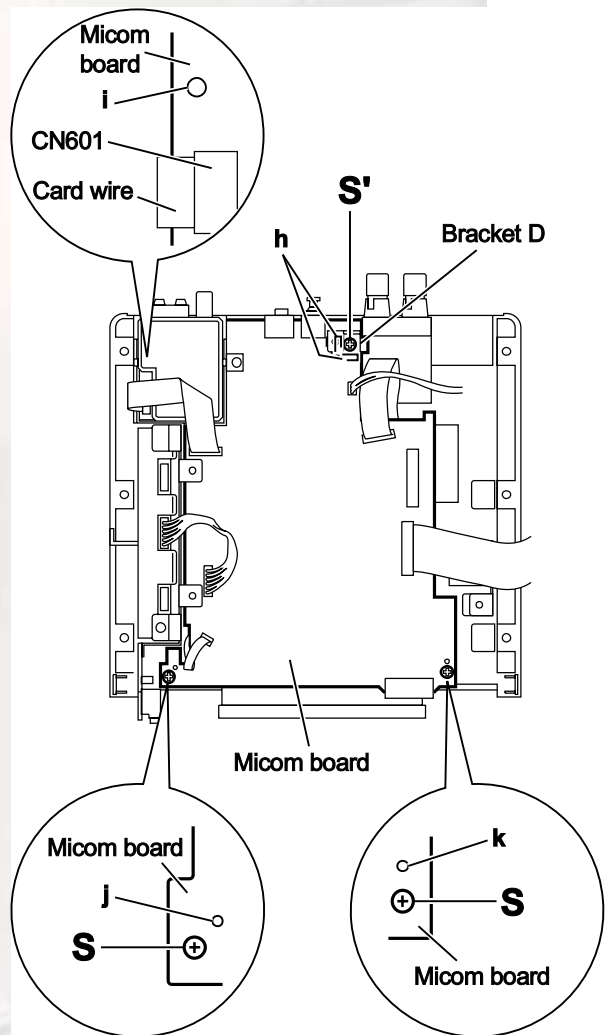

Fig.17
- Disconnect the card wire from the connector CN611 on the main board. (See Fig.17.) **[For A version]**
- Disconnect the card wire from the connector CN601 on the main board. (See Fig.17.) **[For B/E/EN/EV/EE version]**
- Remove the two screws **S** and screw **S'** attaching the micom board. (See Fig.17.)
- When attaching the screw **S'**, attach the bracket D with it. (See Fig.17.)
- When attaching the micom board, attach the screw **S** and screw **S'** after fitting the holes of the main board to the joints (h,i,j,k) of the main body. (See Fig.17.)